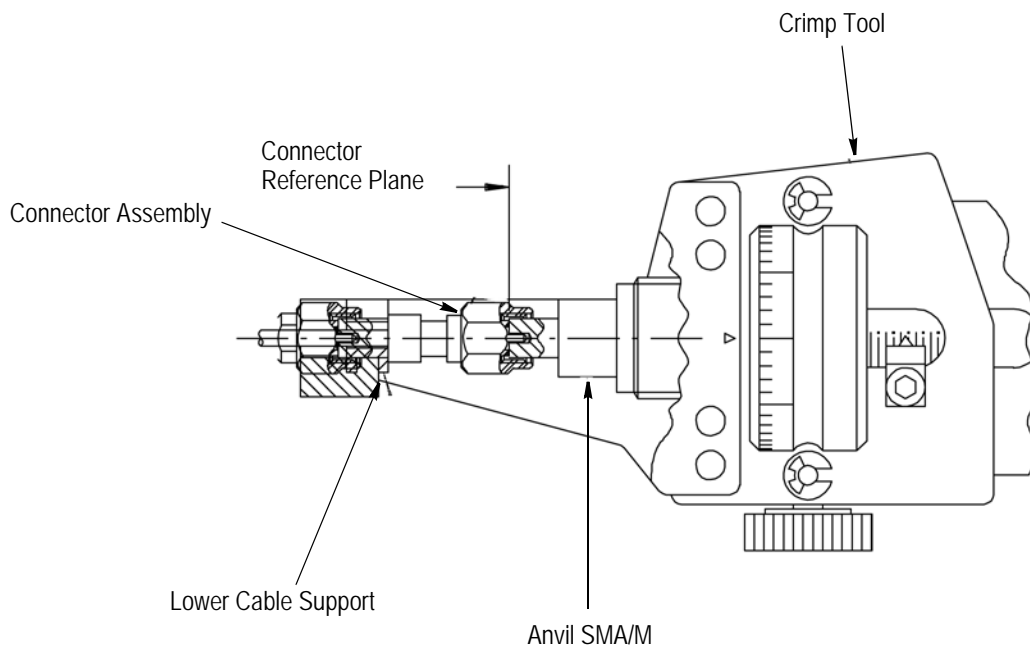

Figure 5
2.1. Installing Cable into Connector Assembly (Figure 5)